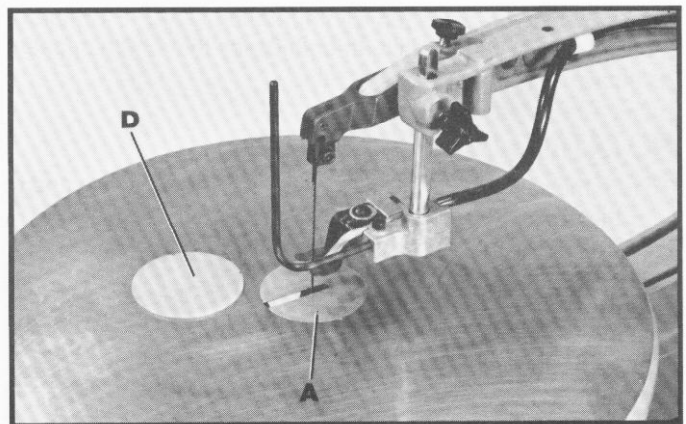

Fig. 11
3. A table insert blank (D) Fig. 11, is supplied as standard equipment with your scroll saw and can be used when cutting very small workpieces to give added support to the bottom of the workpiece. Simply cut a slot into the blank and replace the standard insert (A) with the blank (D). The slot cut into the blank (D) will only be as wide as the blade giving maximum support to the bottom of the workpiece.